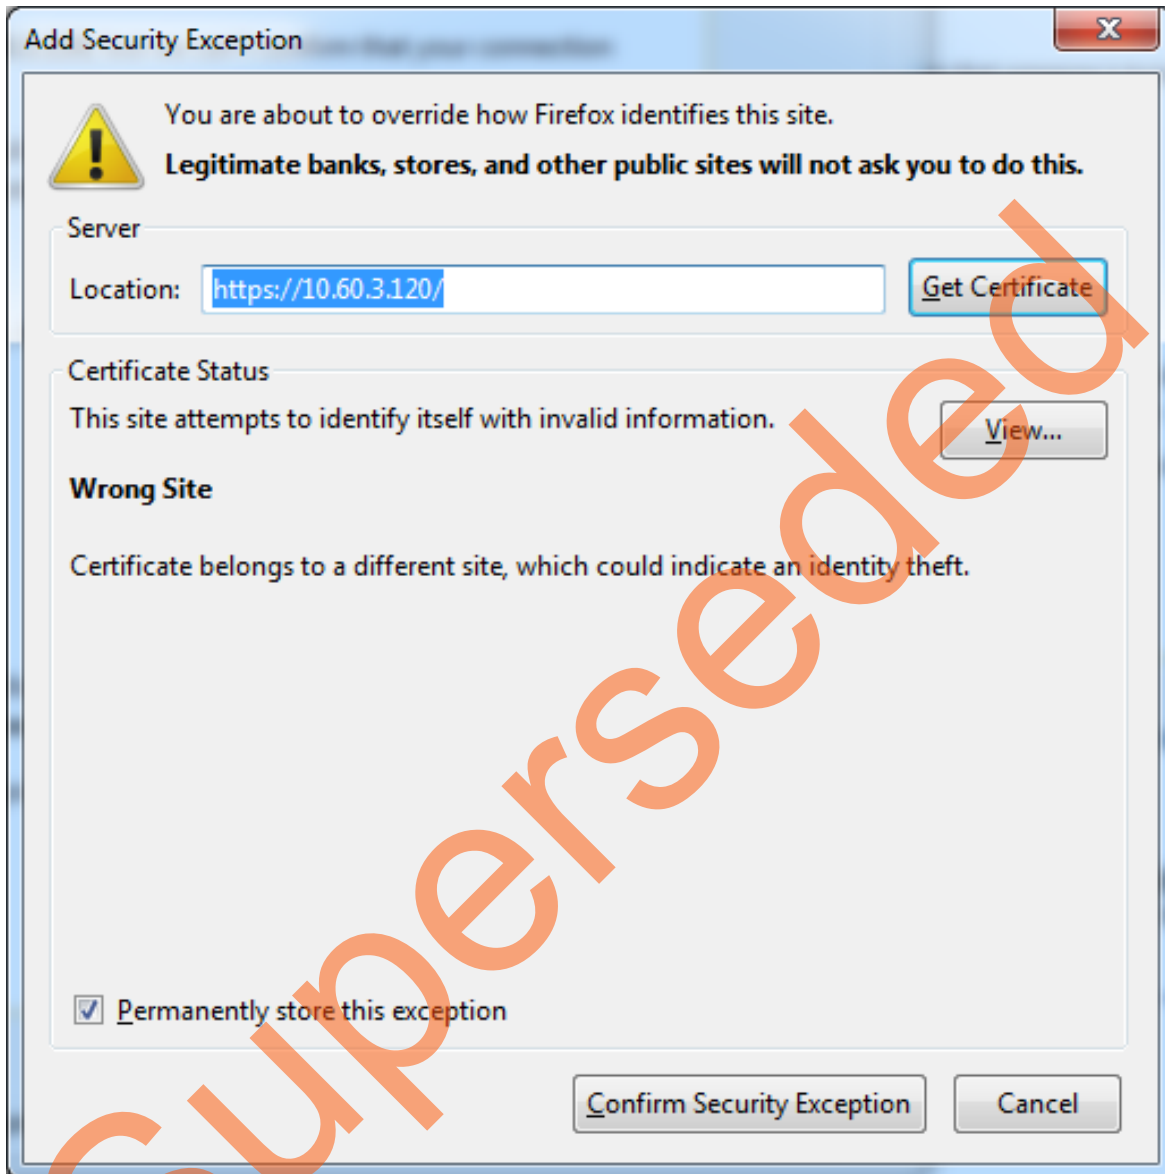

Figure 16 • Add Security Exception Window
- Click **Confirm Security Exception** in **Add Security Exception** window as shown in Figure 16, to start secure communication with the Webserver.